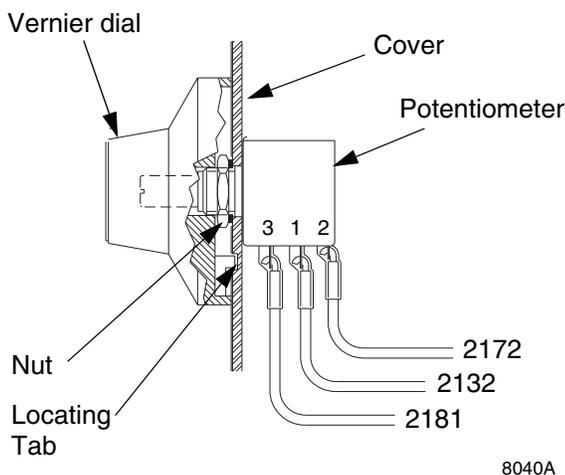

FIG. 15
- Assemble the red rotor, which is keyed, onto the yellow mounting plate with one flat head screw. See FIG. 15.